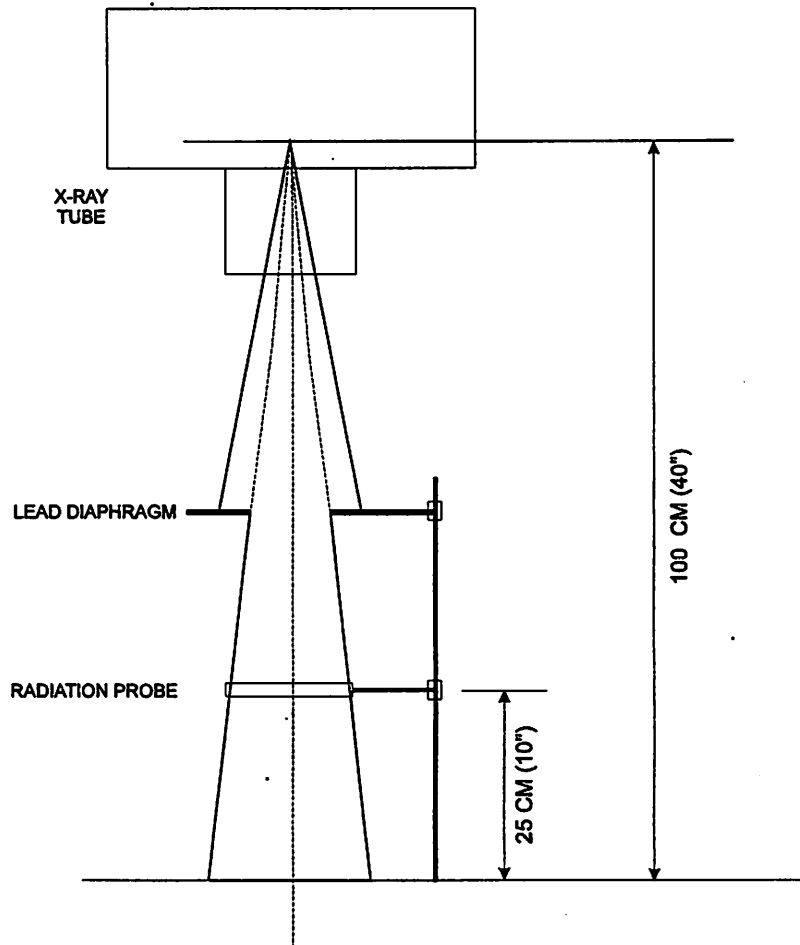

Figure 1: mR measurement setup
2. Place a lead diaphragm over the detector and adjust its height so that the X-ray beam covers the detector but does not over radiate the sides of the 'R' probe. Refer to figure 1.